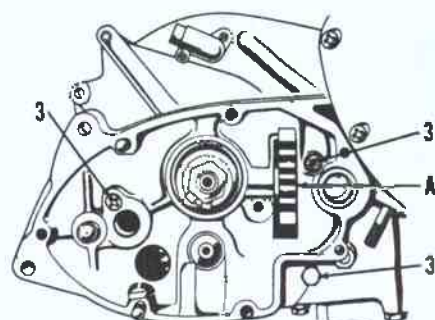

Fig. TM4-52—Drawing of inner cover showing the three screws (3) which attach cover.
To remove the inner cover, unbolt and remove the right rear engine mounting plate. Bend tangs of lock washer down and remove nut (24—Fig. TM4-52). Remove the three screws (3) and remove cover from dowels.
first gear. Install the cover with the top of the second tooth on quadrant aligned with center of foot change spindle bore as shown at (A—Fig. TM4-52).